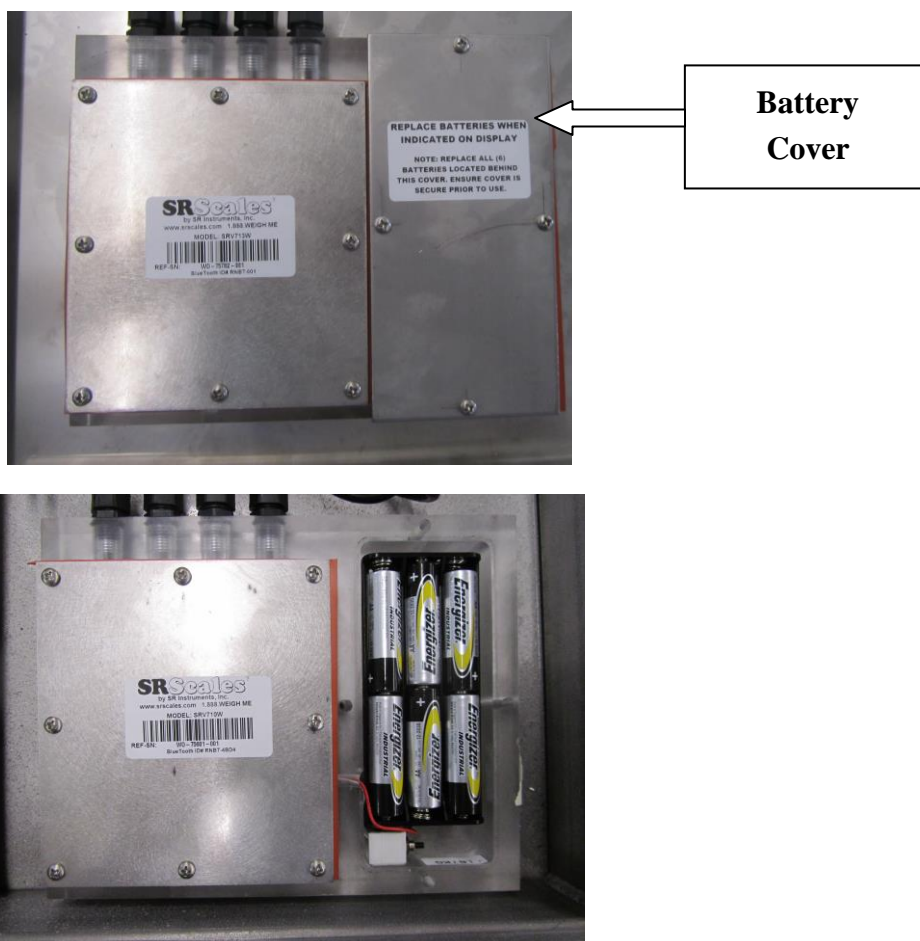

Figure 3: Battery Replacement
Figure 3: Battery Replacement.....	9
**STEP 2:** Remove the two (2) screws holding the display housing to the platform
**STEP 3:** Pull the display out from under the platform and remove the eight (8) screws from the display box cover pictured in Figure 3.